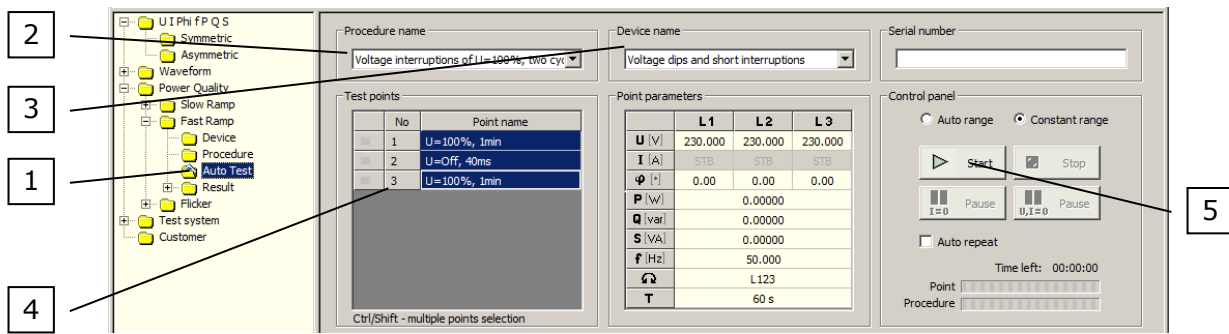
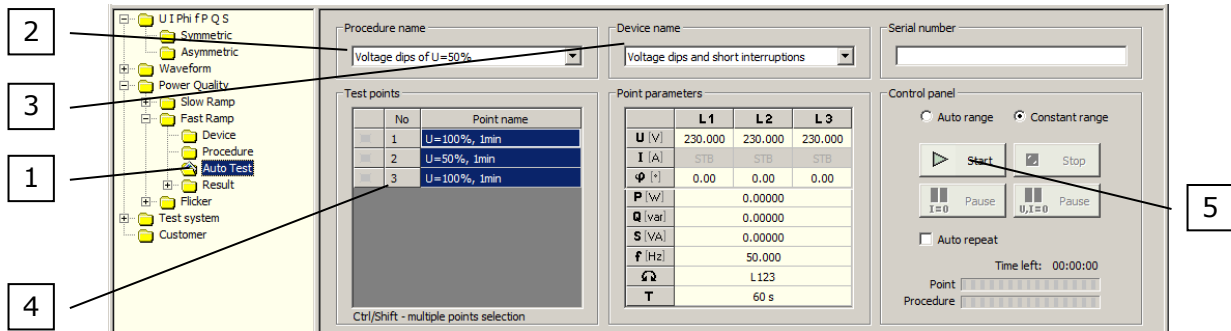

Fig.2.4. Autotest function with selected procedure points
Fig.3.4. Autotest function with selected procedure points
In Fig.2.4, 2.5 and 2.6 are presented *Autotest* function with selected procedure points, procedure in progress and finished procedure.
- press the *Autotest* of the *Power Quality / Fast Ramp* function (pos.1 Fig.2.4),
- choose a correct *Procedure name* (pos.2 Fig.2.4) and *Device name* (pos.3 Fig.2.4),
- select all *Test points* (pos.4 Fig.2.4) and press the *Start* button (pos.5 Fig.2.4).
In Fig.3.4, 3.5 and 3.6 are presented *Autotest* function with selected procedure points, procedure in progress and finished procedure.
- a) press the *Autotest* of the *Power Quality / Fast Ramp* function (pos.1 Fig.3.4),
- b) choose a correct *Procedure name* (pos.2 Fig.2.4) and *Device name* (pos.3 Fig.3.4),
- c) select all *Test points* (pos.4 Fig.3.4) and press the *Start* button (pos.5 Fig.3.4).